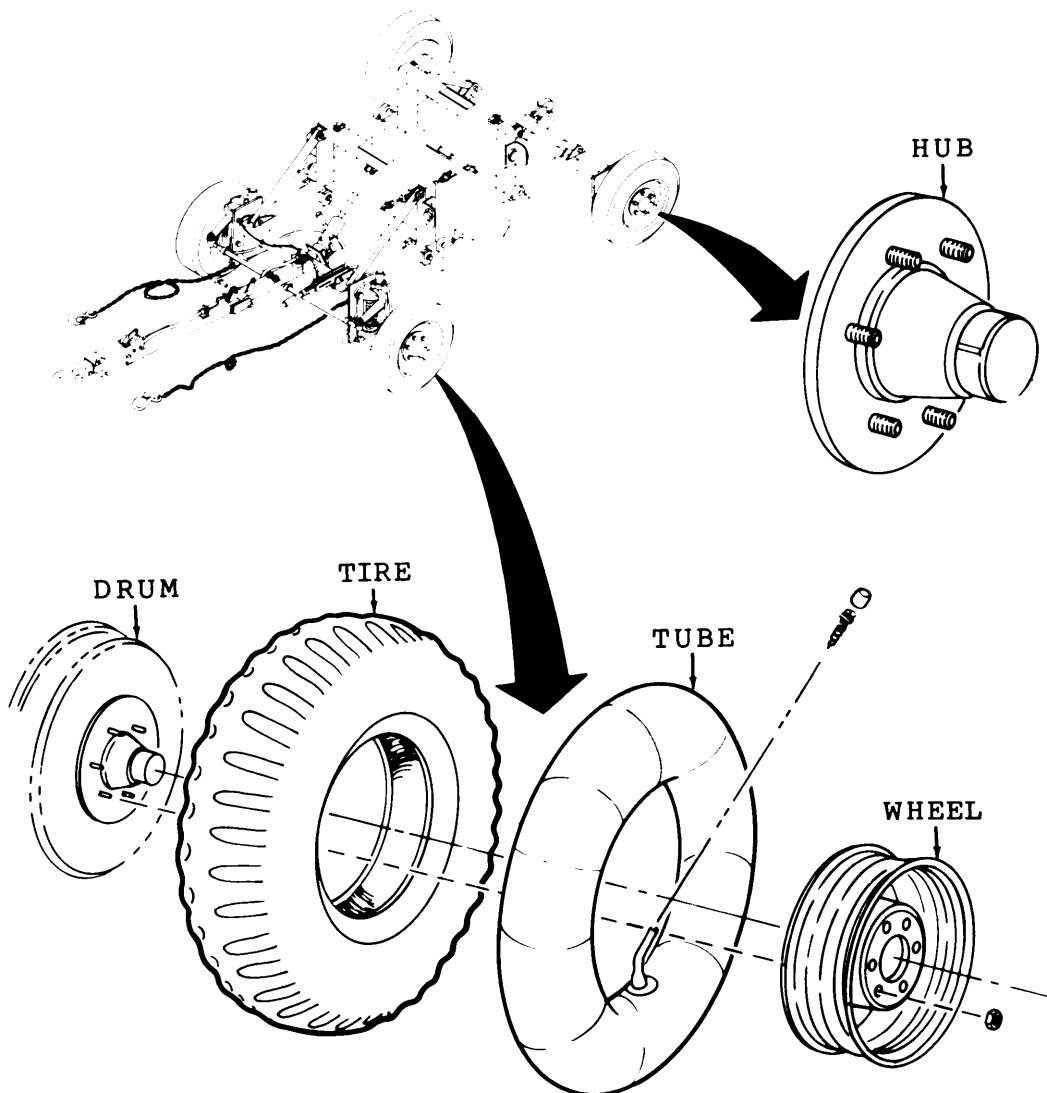

Figure 1-8. Wheel Group Components.
e. *Wheel Group.* The wheel group (Refer to Figure 1-8) consists of the following parts:
- (1) Tires and Tubes.
- (2) Wheels.
- (3) Hub Assemblies (rear) or drum and hub assemblies (front).